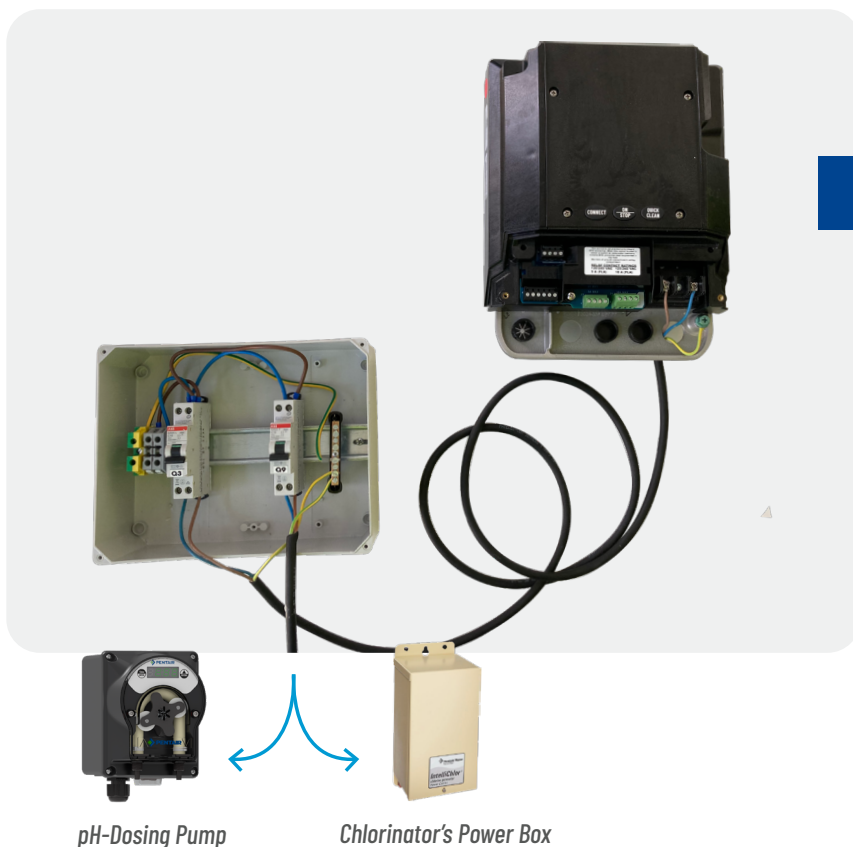

Figure 5
5. Connect power supply cable to the pump directly to **thermal magnetic circuit breaker**. See Figure 5.